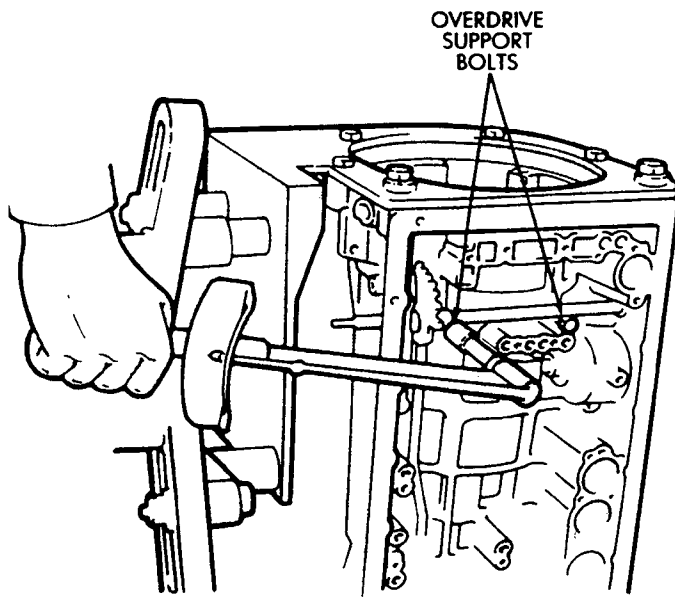

Fig. 39 Installing Overdrive Support Bolts
(47) Install and tighten overdrive support bolts to 25 N•m (19 ft-lbs) torque (Fig. 39).